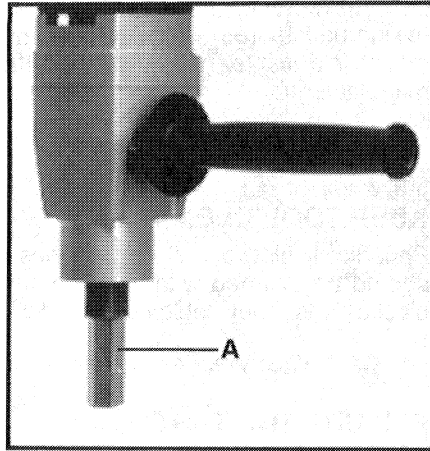

Fig. 4
The paddle adaptor (A) Fig. 4, threads onto the spindle of the mixer. Thread either end of the adaptor onto the mixer spindle (see Fig. 4). Turn adaptor clockwise until seated (normal operation of the mixer will tighten the adaptor onto the mixer spindle).